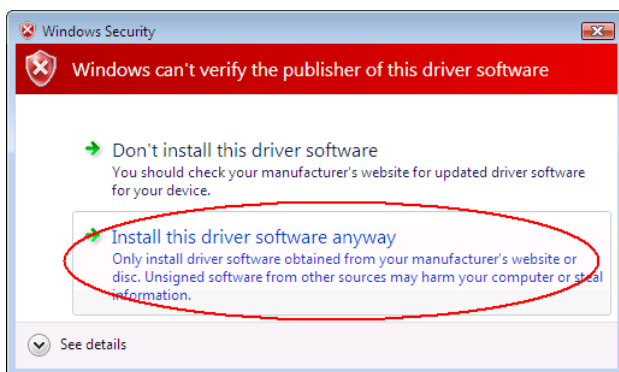

Figure 67. Hardware wizard 3rd screen
- Choose "Install this driver software anyway" (see Figure 67).
- If window like Figure 67 will appear, press "Install this driver software anyway".